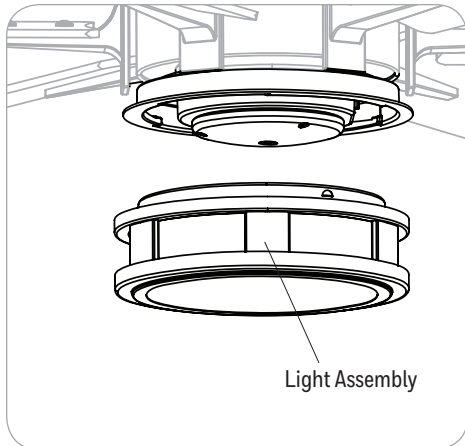

Figure 2.16
16. Lift the glass assembly into the light kit and twist in a clockwise direction to secure (Figure 2.16). Note: Remove the rubber shipping blocks from the glass assembly.